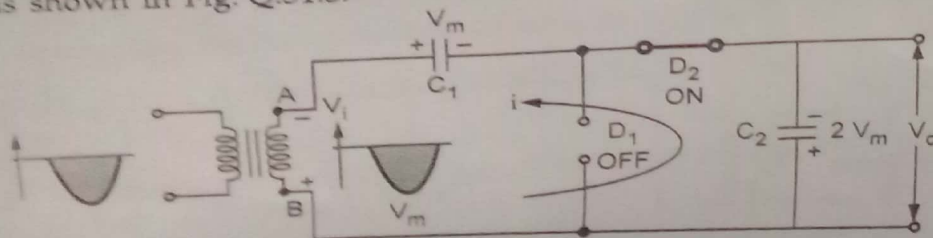

Fig. Q.51.3
- So capacitor C_2 will get charged equal to $2 V_m$ with the polarities as shown in Fig. Q.51.3.